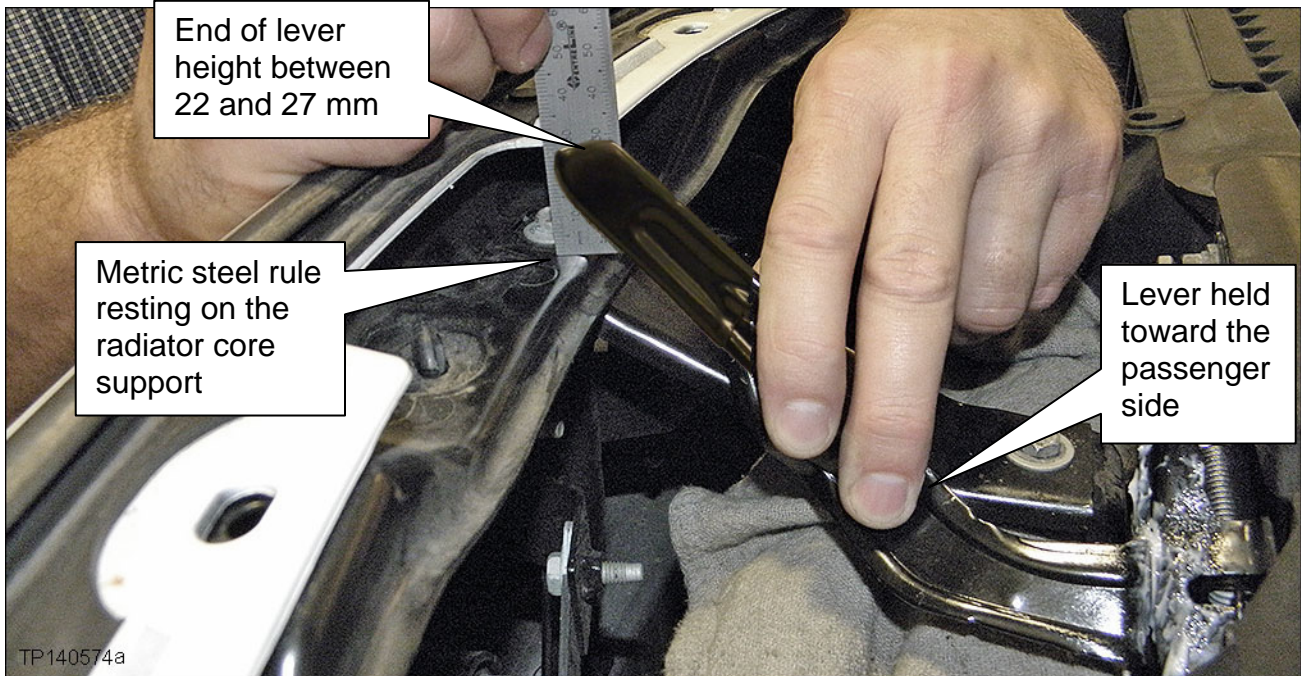

Figure 12
15. Measure the height of the secondary hood latch lever as follows (see Figure 12):